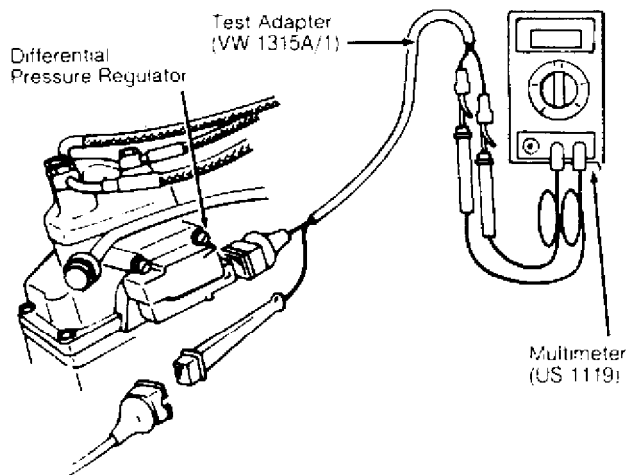

Fig. 4: Testing Oxygen (O₂) Sensor (Except Vanagon)
1) Ensure exhaust system is not leaking. Warm engine to normal operating temperature with all accessories off. Remove differential pressure regulator connector. Connect Wiring Harness Adapter (VW 1315 A/1) in series. See Fig. 4.